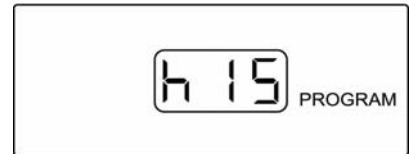

Figure 2-14
- 3) To adjust the day (d) you will need to press and hold the **S** button until the center digit flashes. Pressing the up and down arrow buttons will adjust the value of this digit. When you have selected the number that you want press the right button to adjust the right digit in the same manner with the up and down arrow buttons. When you have the proper number displayed for the day (d) press and hold the **S** button for 3 seconds until the monitor beeps twice and the display flashes twice. The display is shown like **Figure 2-14**.